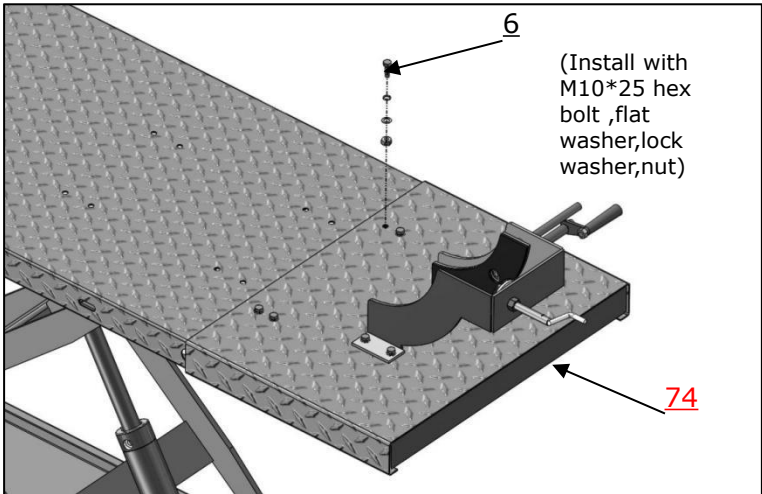

Fig.16
E. Install Optional Length Extension Kit (MC002) . See Fig 16